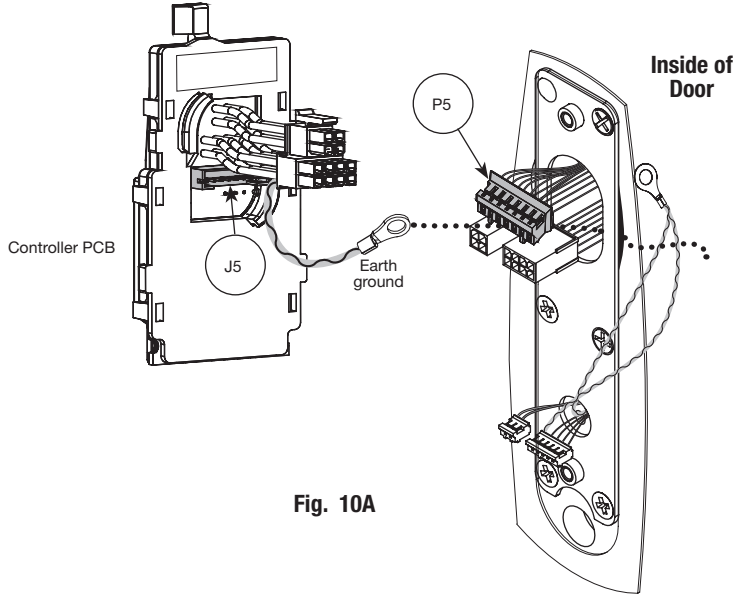

Fig. 10A
1. Feed controller harness earth ground into and around behind rim of large upper hole of the mounting plate (Fig. 10A, B).
- b. Connect ElectroLynx harness (4 and 8-pin) from door harness to ElectroLynx harness on interior PCB assembly (Fig. 10A, D).